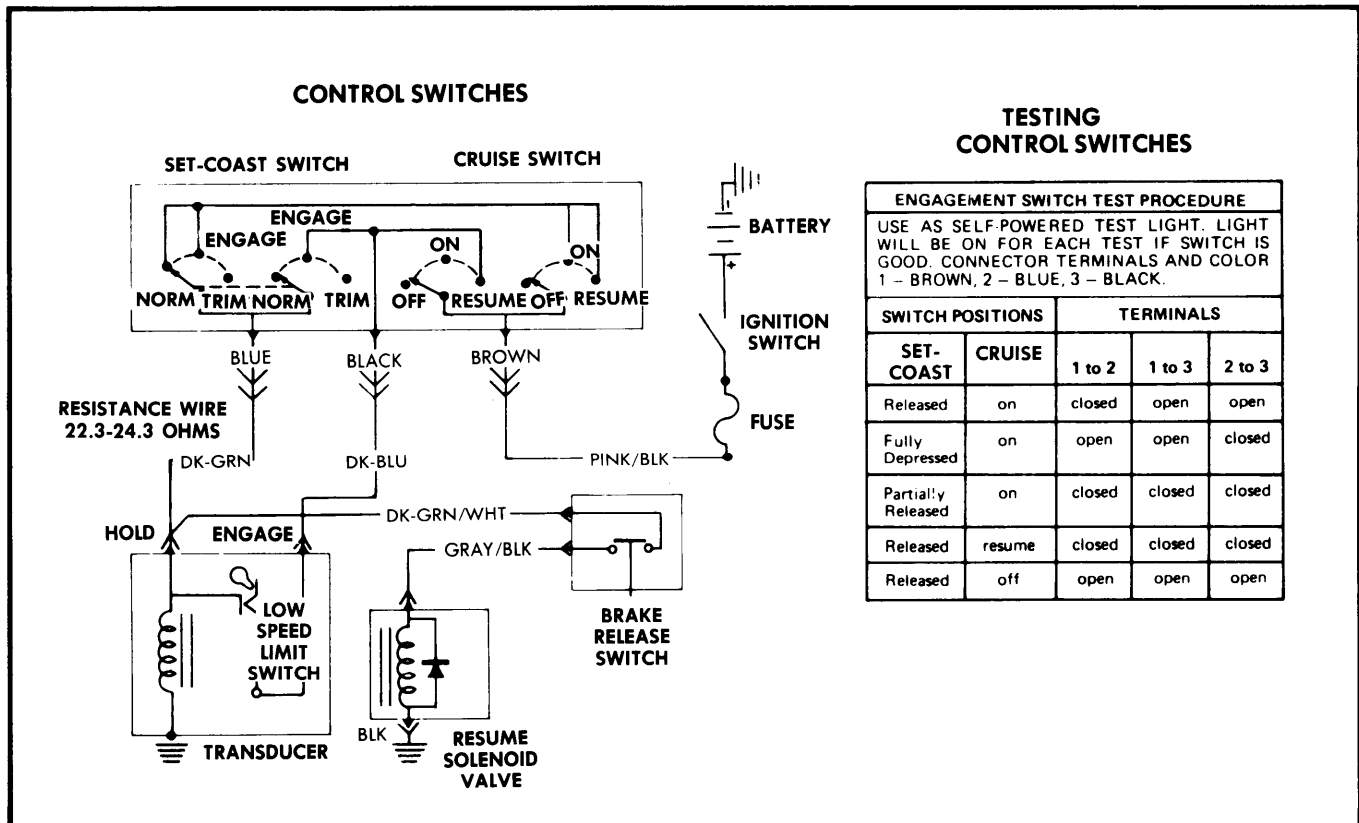

Fig. 1 General Motors Cruise Master Wiring Diagram
To test "SET-COAST" and "CRUISE" switches, refer to Fig. 1.
4) If test light is off in step 2) or 3), check for open circuit in wire. See Fig. 1 and perform "SET-COAST" Switch Test.